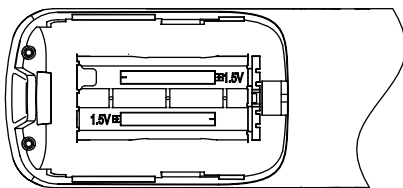

Figure 2.8
3) Take out the old batteries. Install two new AAA batteries according to the positive and negative polarities indicated (see Figure 2.8). Close the battery cover.